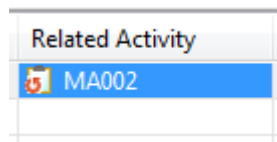

Figure 2. Activity column with value
- Copy and paste it into the activity column (see Figure 2). You can also drag and drop selected activity element.